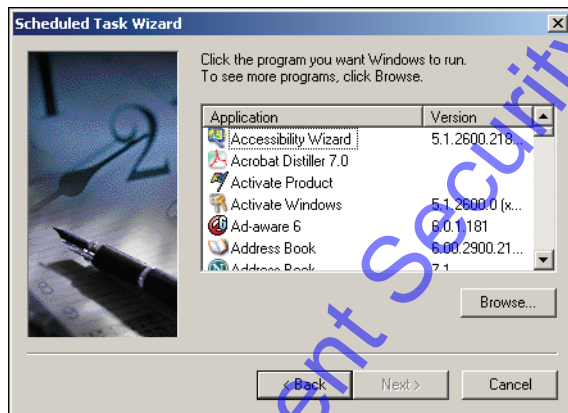

Figure 5-26: Scheduled Task Wizard - Locate Program
- Click on the **Next >** button. The next window in the Scheduled Task Wizard will appear (see Figure 5-26).